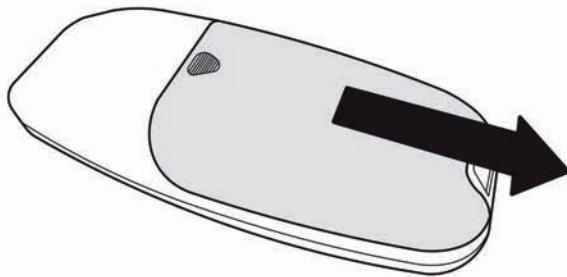

Fig. 15
Regarding the battery wires, the same isolation key can be used for both systems. To do this, connect the second electronics box using a length of wire from the isolation key to the box itself. There should be only a single positive battery wire connected to the battery itself, with two cables then splitting to the respective boxes via in-line fuses from the isolation switch onward. Use Fig.20 for reference. To finalise the electrical set up, attach the Data Cable (4) between the relevant ports (Fig.15.DAT) in the electronic control units (2). Ensure this is firmly in place.